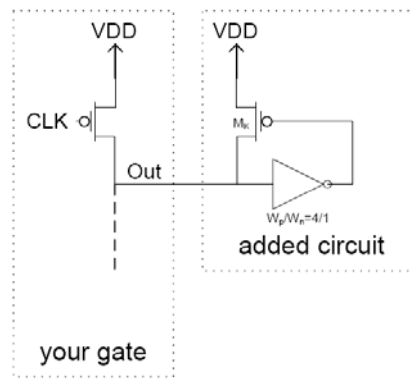

Figure 6: Circuit add-on to mitigate effect of charge sharing
- e) In order to combat the effect of charge sharing you can add a circuit shown in Figure 6 (often referred to as inverter + level restoring transistor or keeper) to the output of your dynamic gate.